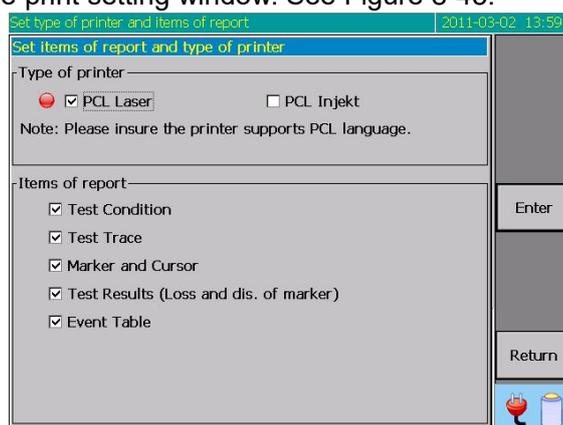

Figure 8-45 Print setting window
- (1) The instrument only supports printers which support PCL language format. If instrument is connected with printers not supporting PCL language format, it will not be able to print.
- (2) User may copy waveform files to PC and use simulation analysis software to print the test report.
- Press **【File】** in the first menu bar of main screen into file sub-menu, and then press **【Print】** into the print setting window. See Figure 8-45.